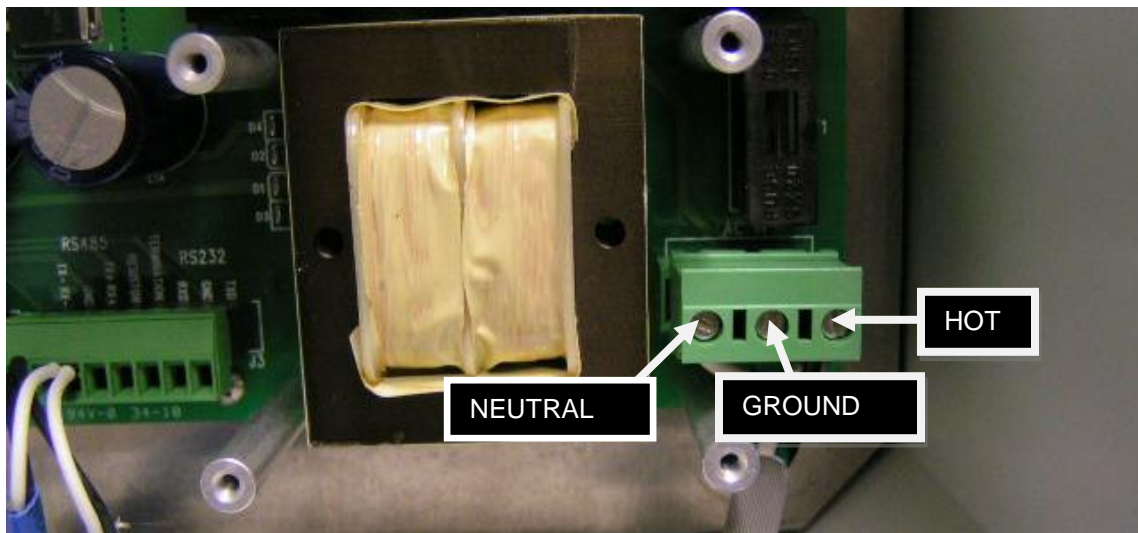

Figure 9 Power Terminal Block
7. Electrical power should be connected as shown in Figure 9. On the PC board, under the green connector, it is labeled from left to right, “NEU”, “GND”, and “HOT”